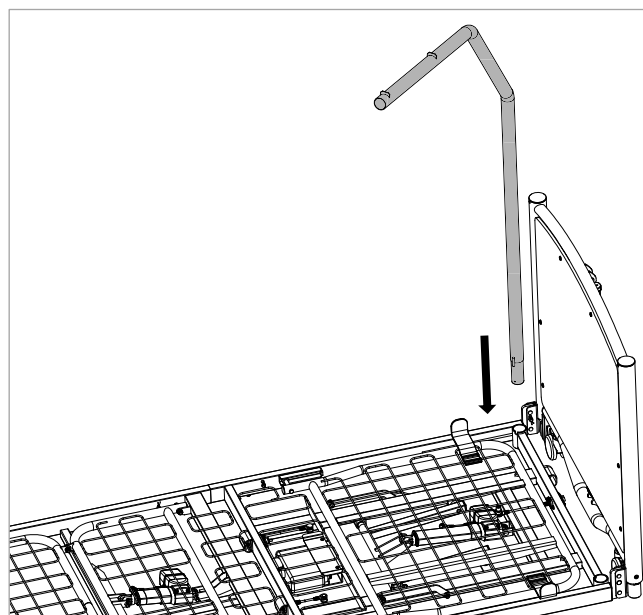

Figure 6.2
1. Choose which side of the bed that the lifting pole will be fitted. For illustration purposes the Lifting Pole is being fitted to the right-hand side of the bed (see Figure 6.2).